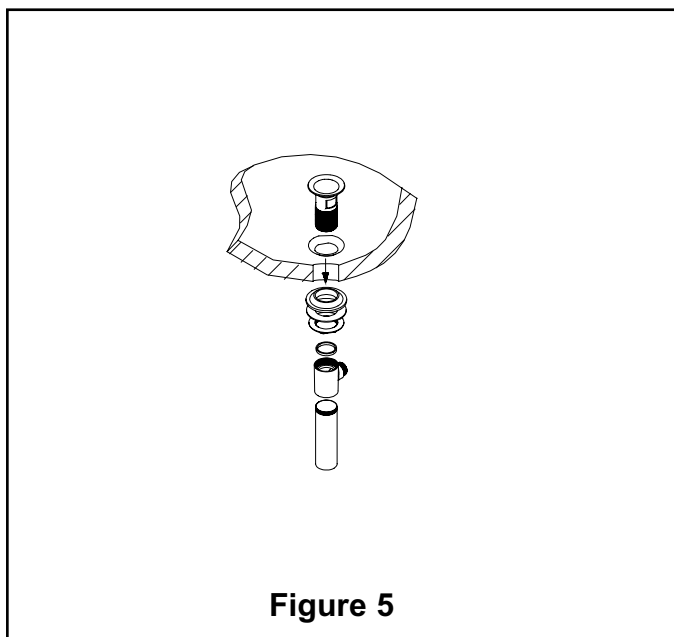

Figure 5
7. Remove drain plug from flange. Place flange & white washer through sink drain opening. (Clear silicone may be used in place of white washer.) From bottom side of sink, place cone shaped rubber washer onto flange & slide up against sink bottom. Note: Cone portion of washer to face upward. Next slide on clear flat washer and secure with flange nut. Place clear washer into drain body & tighten to flange. Apply thread sealant to tailpiece and attach to drain body. Attach tailpiece to p-trap drain (not included). See Fig. 5